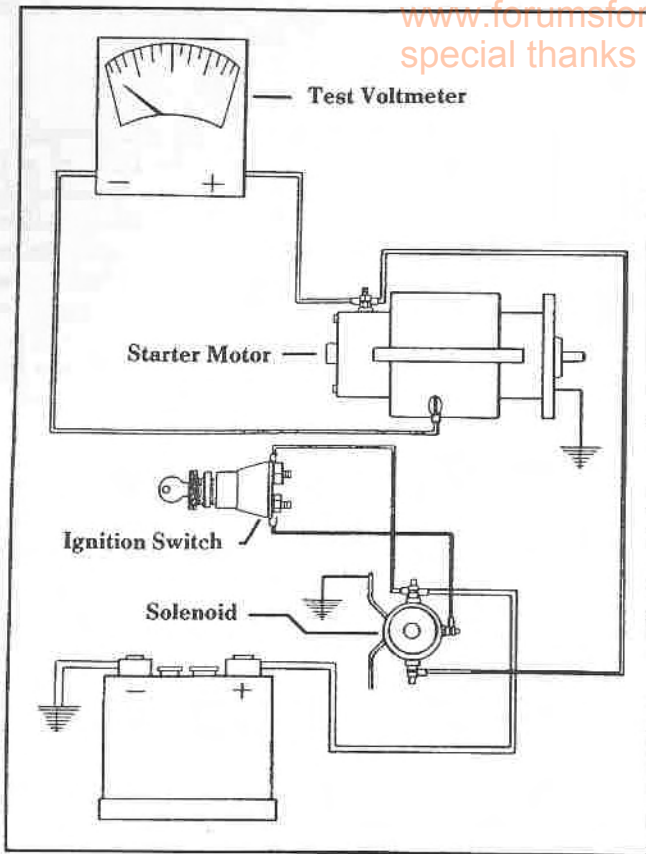

Fig. 3
3. Connect a voltmeter across starter motor (Figure 3) with positive (+) lead to starter motor terminal, and negative (-) lead to ground on starter frame.